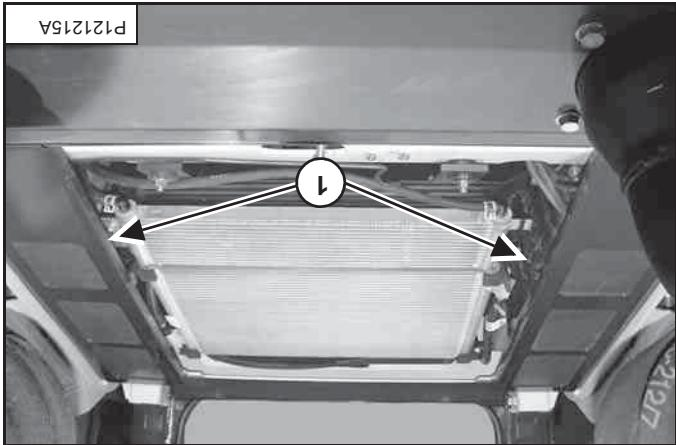

Figure 39
Lift and remove the two side covers (item 1) [Figure 39].